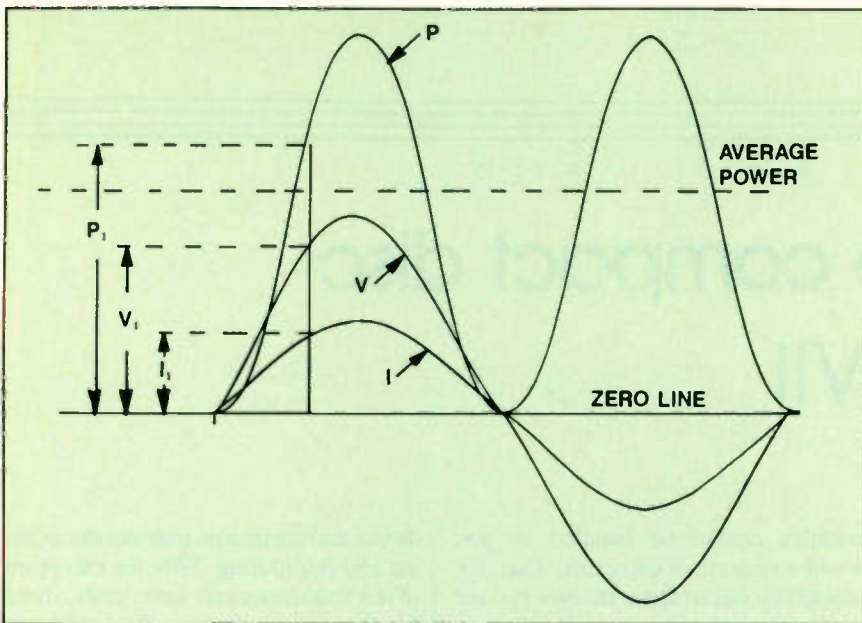

Figure 2. If you multiply all of the instantaneous voltages and currents in Figure 1, you will get this power wave. The broken line shows the average power.
If you multiply all of the instantaneous voltages and currents, you will get the power wave shown in Figure 2.
so the average value is half-way between the peaks. The broken line in Figure 2 shows the average power. Remember, that broken line represents the true power being dissipated.
Figure 2. The flowchart for audio circuit failure shows the chain of servicing events, from the digital-to-analog converter to the audio output. In this case, it would involve checking the filters as well as the integrated circuits containing audio amplifiers. (Courtesy of Kyocera International.)
dicated in the flowchart (Figure 2), involves moving step-by-step from the digital-to-analog converter to the audio output. In this case it would involve checking the filters as well as the integrated circuits containing audio amplifiers.
To fashion a clicker tape, you have to remove the disengaging lever. First, cut the videotape so that each reel can rotate independently. Then, using cellophane tape, secure the loose ends of the videotape to the reels so that they cannot unravel. Next, remove the disengaging lever, usually an L-shaped piece of black plastic, but leave in place the two locking levers that contact the cogs. Once this lever is removed, the take-up reel should click as it is turned forward, and the supply reel should click when it is turned backward. You will notice several metal and plastic tape guides in the cassette. They are no longer necessary, so they can be removed if you wish. Now replace the top half, invert the shell, install the screws, apply black tape over the end sensor holes under the door (see Figure 2), and the job's complete.
**Figure 2.** To make the clicker tape, cut the videotape so that each reel can rotate independently. When the disengaging lever is removed, the take-up reel should click as it is turned forward, and the supply reel should click when it is turned backward. Black tape over the end sensor holes completes the job.